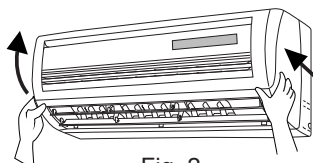

Fig. 2
1. Open panel upwardly (as shown in fig. 2):